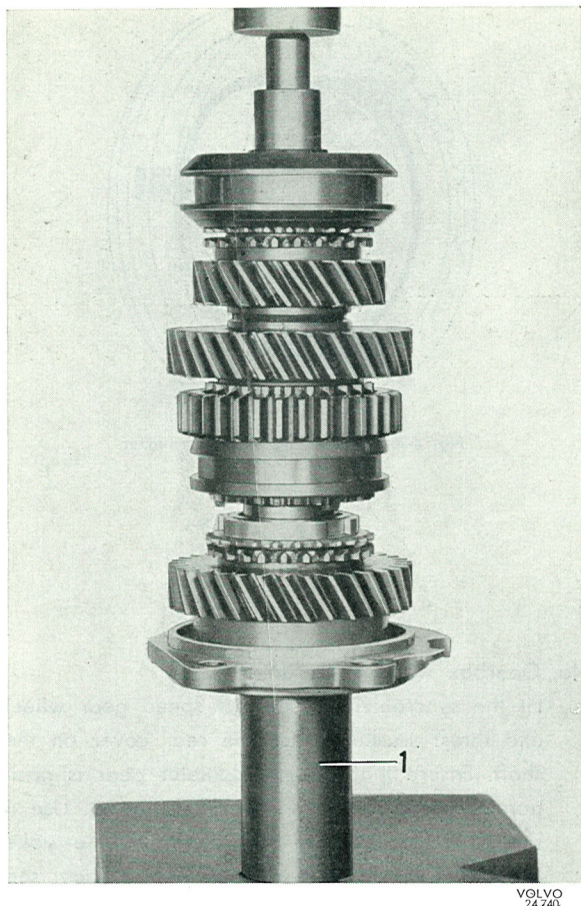

Fig. 4-37. Fitting the rear cover, M 41
- Place the rear cover and ball bearing on a cushioning ring or sleeve as shown in Fig. 4-37. Place on the thrust washer, 1st speed gear wheel and synchronizing cone. Press in the shaft. Select a circlip of suitable thickness and fit it. Fit the key, the rotor for the oil pump and circlip.